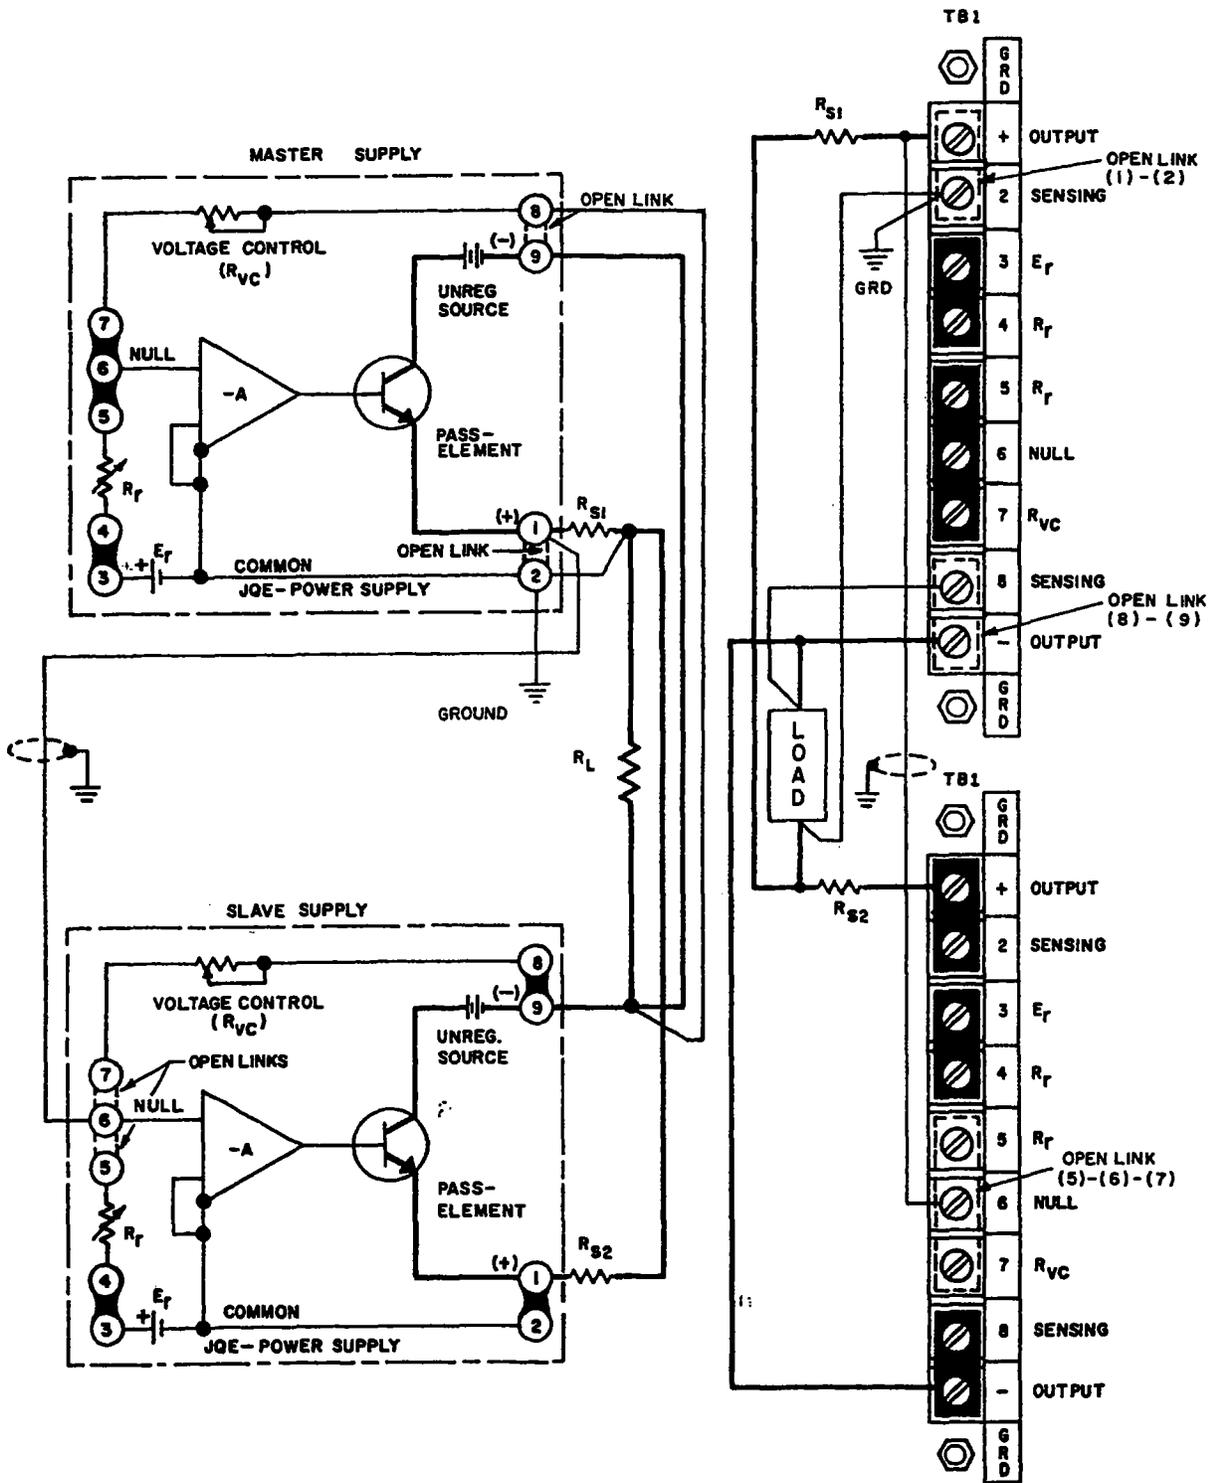

FIG. 3-15 MASTER-SLAVE PARALLEL CONNECTION OF JOE POWER SUPPLIES
**3-44 MASTER-SLAVE PARALLEL OPERATION:** Kepco Power Supplies may be paralleled if the output current from a single supply is not sufficient for the application at hand. With the parallel connection shown in FIG. 3-15, the total output current of the parallel supplies may be controlled from a single "Master" supply. To operate the parallel supplies in the "Master-Slave" connection, sensing resistors of equal value must be selected ( $R_{s1}$ ,  $R_{s2}$  in FIG. 3-15) such that the voltage drop across them is about 0.1 to 0.25 volts at the output current of interest. The *sum* of the voltage drops across the load wire with the sensing resistors in series should *never exceed 0.5 volts* at the maximum desired operating current. If sensing resistors of the proper value are not available, the resistance of the load wires may be sufficient to establish the necessary voltage drops. In this case, the load wires should be trimmed such that *equal voltage drops* are established in the load wire from the "Master" and that from the "Slave" supply. Load wires should in general be of as heavy a wire gauge as practicable. Twisting of the load wires, as well as of the error sensing leads from the "Master" supply (although *not* shown in FIG. 3-15) is recommended.
- Connect supplies as shown in FIG. 3-15, keeping load and error sensing leads as short as possible. Use shielded wire for the connection from terminal (2) of the "Master" to terminal (6) of the "Slave" unit.